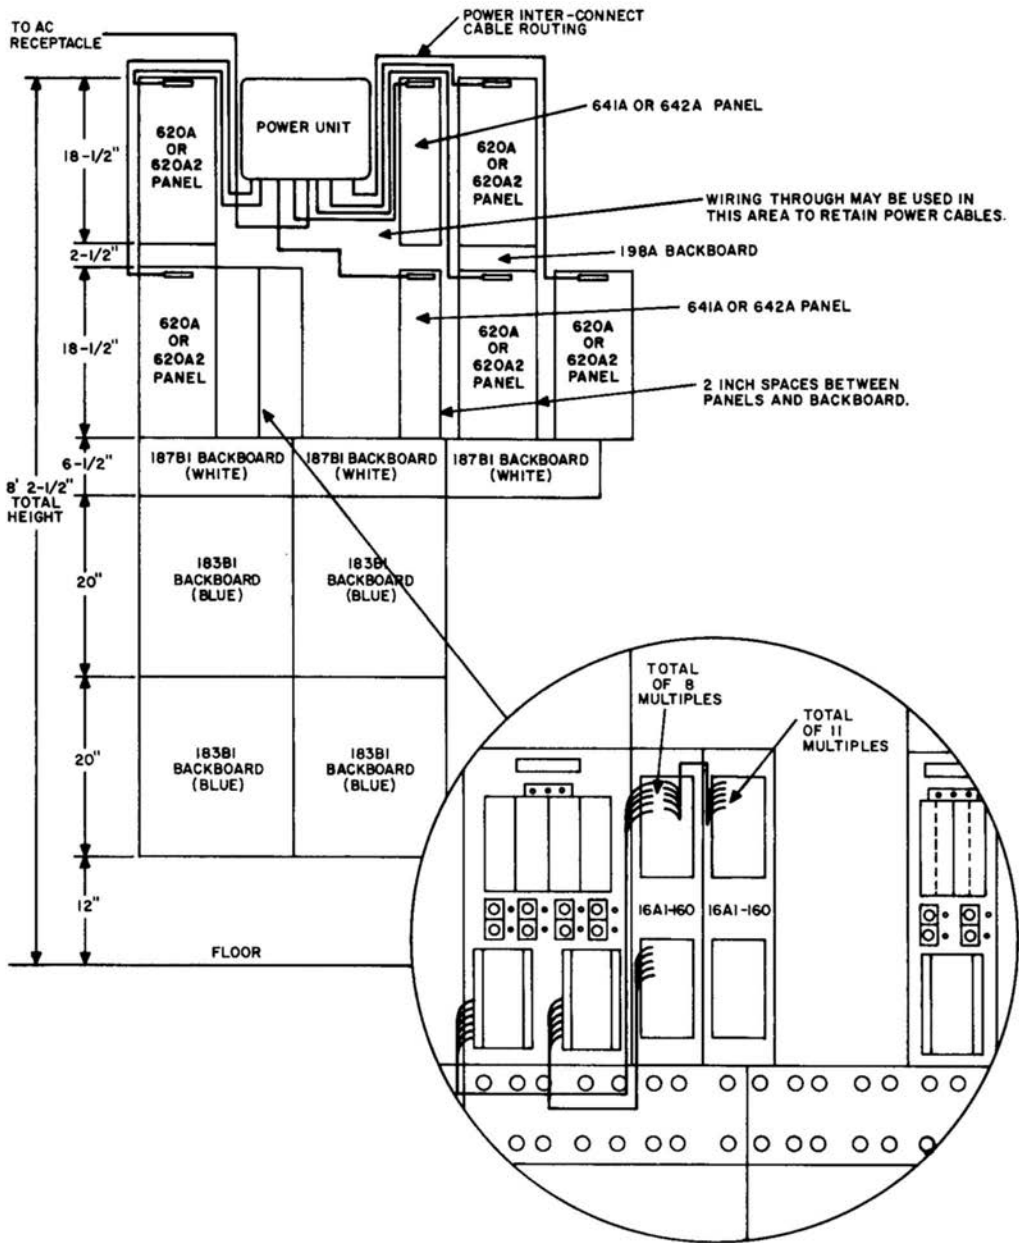

Fig. 9—Stacked Modular Apparatus and Method of Terminal Multiplying Using 16A1-160 Terminal Blocks
3.11 Where modular panels must be stacked one above the other, the following installation method is recommended (Fig. 9 and 10).